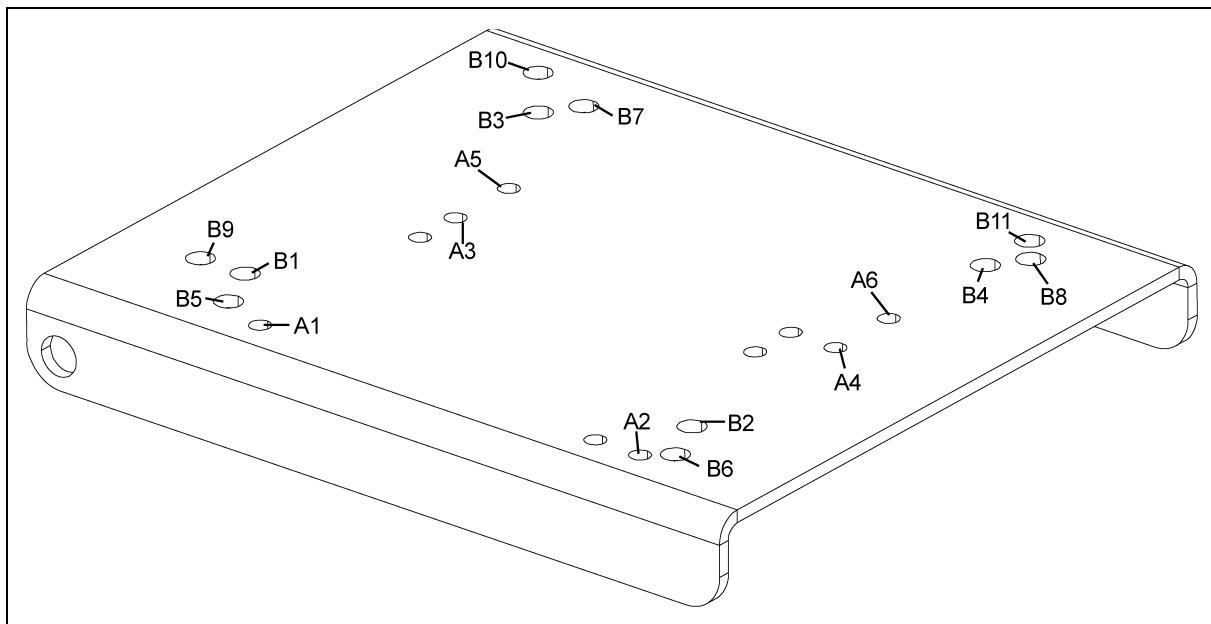

Figure 4D
8. Slide the mounting ring of the belt guard (U) over the mounting ring of the chain reducer drive (K).
9. Fasten the bottom of the belt guard (U) to the motor mount frame (N) using two (2) 3/8" x 1-1/4" long (grade 5) hex head cap screws, eight (8) 1/16" thick flat washers and two (2) nylon lock nuts. Position the flat washers between the inside of the motor mount frame (N) and the outside of the belt guard (U).
10. Use two (2) 1/4" x 5" long hex head cap screws, belt guard spacer tubes (T) and nylon lock nuts to connect the upper portion of the belt guard (U) to the motor mount frame (N).
11. Install electric motor on the motor mount plate (C). (**NOTE: The motor and motor mounting hardware are not furnished.**) (See Figure 4D on Page 15 for motor size and bolt hole locations.)
13. Slide 12" O.D. pulley (X) onto the input shaft of the chain reducer (K). Using 1/4" square key (AA) and set screw to secure pulley in place. Align motor pulley with 12" O.D. pulley.
14. Install drive belts (Z) on pulleys and tighten. Using a wrench, turn the adjusting rod (G) (installed in Step 5 on Page 12) so that it pushes against the bottom of the motor mount plate (C). When the belts are tight, screw the hex nut on the bottom side of the adjusting rod tightly up against the nut welded to the bottom of the motor mount support plate.
15. Bolt the belt guard door (U) closed with two (2) 3/8" x 3/4" long (grade 5) hex head cap screws and nylon lock nuts.
Use the charts and Figure 4D below to determine the location of the holes where you need to install the motor.